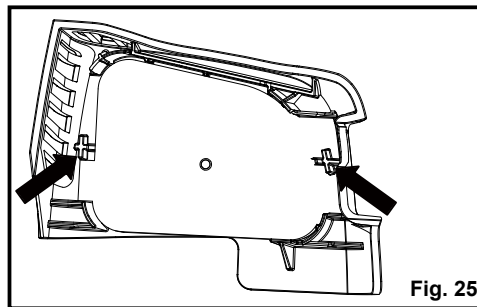

Fig. 25
- Place the air filter back, ensuring that it is properly seated onto the air filter cover. Installing the filter correctly will decrease the chances of engine wear caused by dirt entering the engine (Fig. 25).